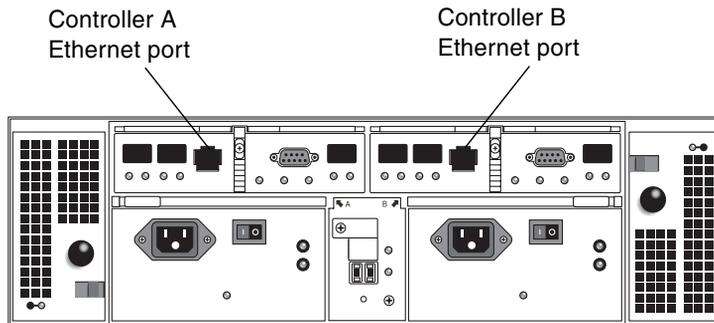

FIGURE 4-1 Ethernet Ports for Controller A and Controller B
1. Locate the Ethernet ports for Controller A and Controller B at the back of the controller module (FIGURE 4-1).